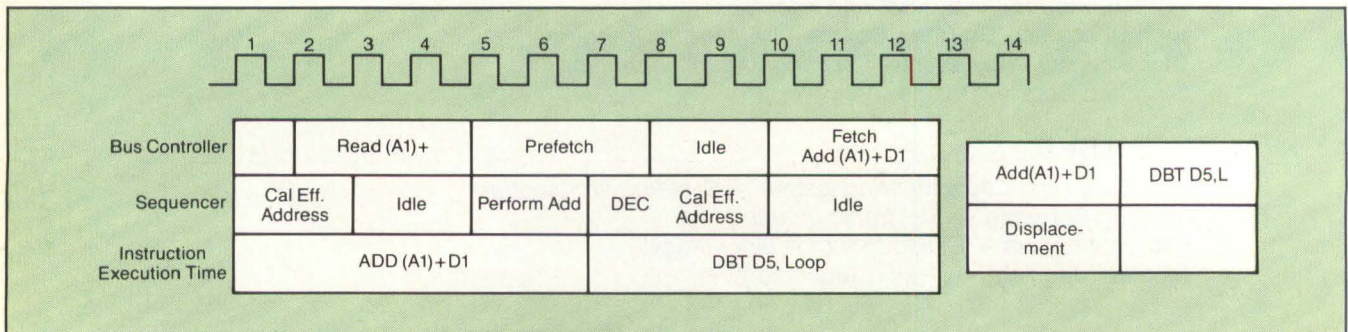

Figure 2: Timing diagram for a simple algorithm to add an array of numbers.
The timing for these instructions running on the 68020 is shown in **Figure 2**. The times the sequencer and the bus controller are active are shown. The sequencer is idle during the first ADD instruction, clock cycle 4. This is because the ADD D1,D2 instruction requires the data be fetched from memory, (A), and loaded into register D1 before it can add D1 to D2. Therefore, the sequencer must wait for the bus controller to complete before performing the addition.
Figure 2: Motorola Microsystems supports full 16-bit development with its VME/10 computer and the HDS-400 hardware development station. Besides hardware debugging, the company is incorporating state analysis.